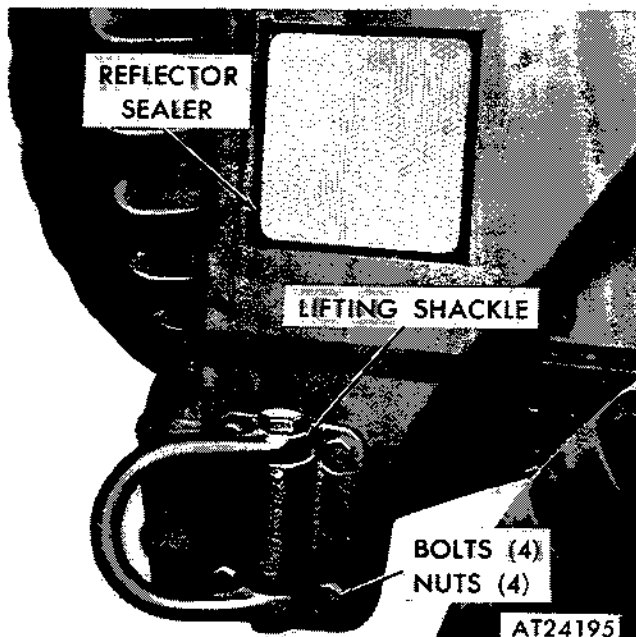

Figure 2-397. Removing or installing rear lifting shackle assemblies. (M825, M151A2, and M718A1 vehicles.)
(3) Smooth down stick-on reflector in place by rolling across it with hands so any air bubbles that might be forming underneath are worked out.
(4) Apply sealer (11614197) completely around edge of reflector ($\frac{1}{4}$ " off edge) as shown in figure 2-397.
(1) Remove cover plate and rear light assembly from vehicle. Refer to paragraph 2-90 b.
(2) Remove four nuts and bolts securing lifting shackle and bracket assembly to vehicle (fig. 2-397).